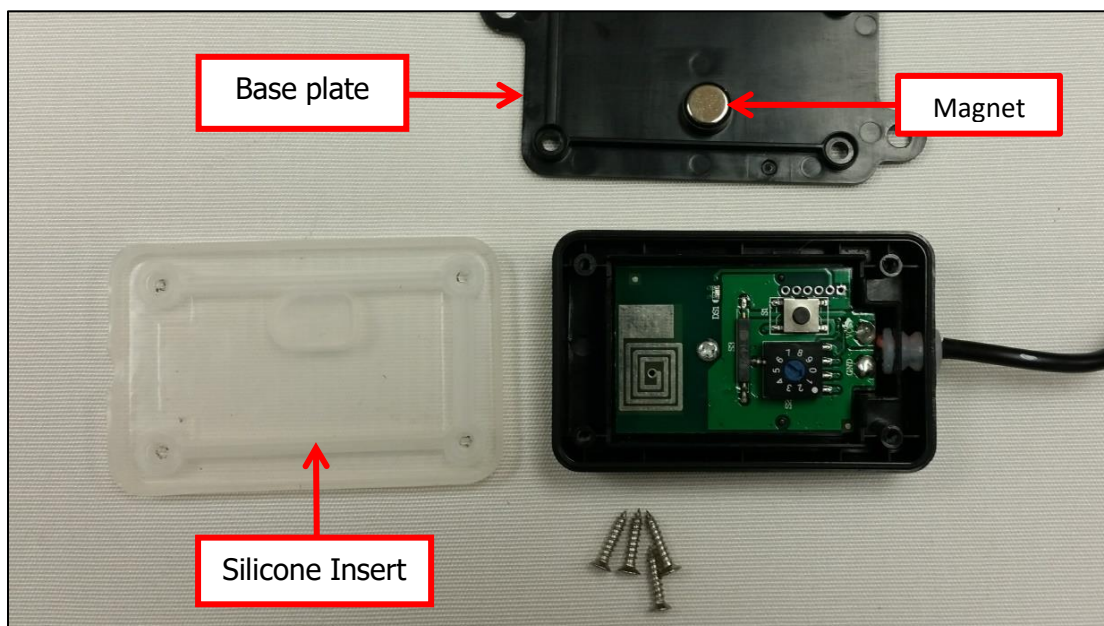

Fig.13
- c. Remove the 4 cross head screws holding the module together. Remove the back plate and silicone insert. See Fig.13.